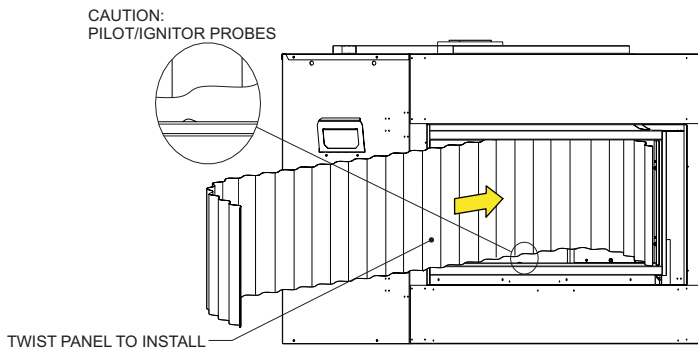

Figure 4
10. To install the liner panel, it works best if the right side is placed into the firebox first. **See Figure 4.** When installing the liner, some gentle twisting of the liner will be required. The liner will need to be pushed back into the corners of the firebox just enough to engage the right front edge of the liner into the right side retainer bracket. **See Figure 4.**